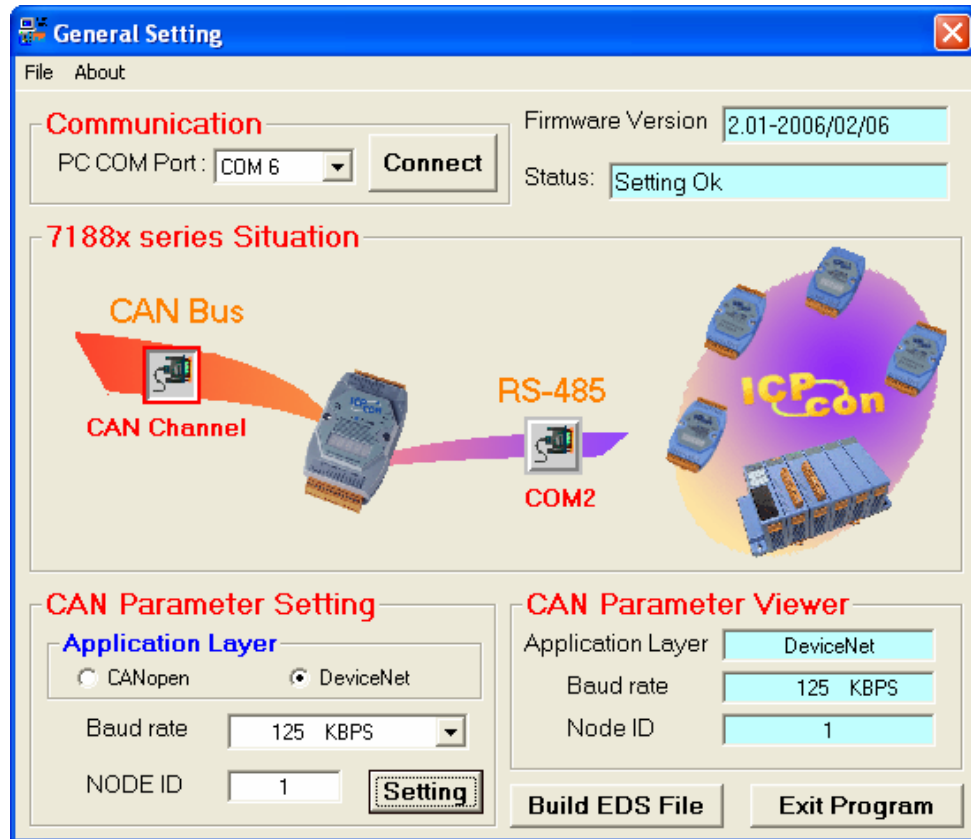

Fig 5-20
Step 5: When the i-7K modules scan is finished; a related information dialog box will be displayed as figure 5-20.